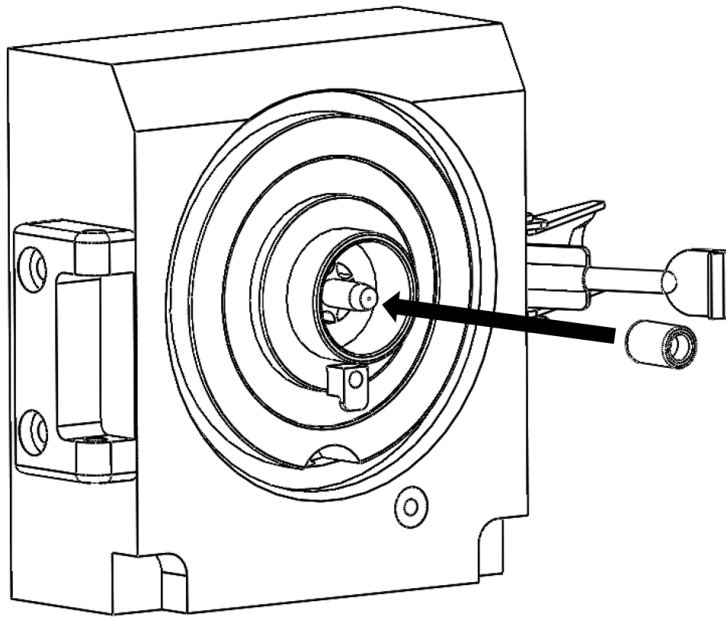

Figure 3: Installation of the ceramic spacer.
- Place the ceramic spacer on the resistive glass capillary (see Fig. 3).